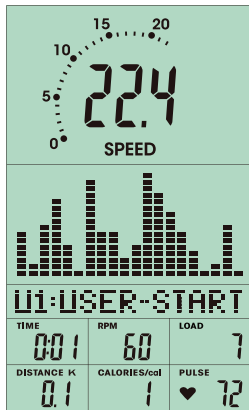
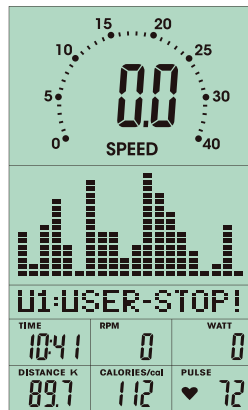

FIGURE 26
FIGURE 27
1. After entering into the USER PROGRAM mode, the first column of the profile will blink. (FIGURE 26). To customize, turn the Toggle Wheel to adjust the first column resistance level (FIGURE 27), press ENTER and adjust the 2nd column. Repeat 1 – 20 Levels.